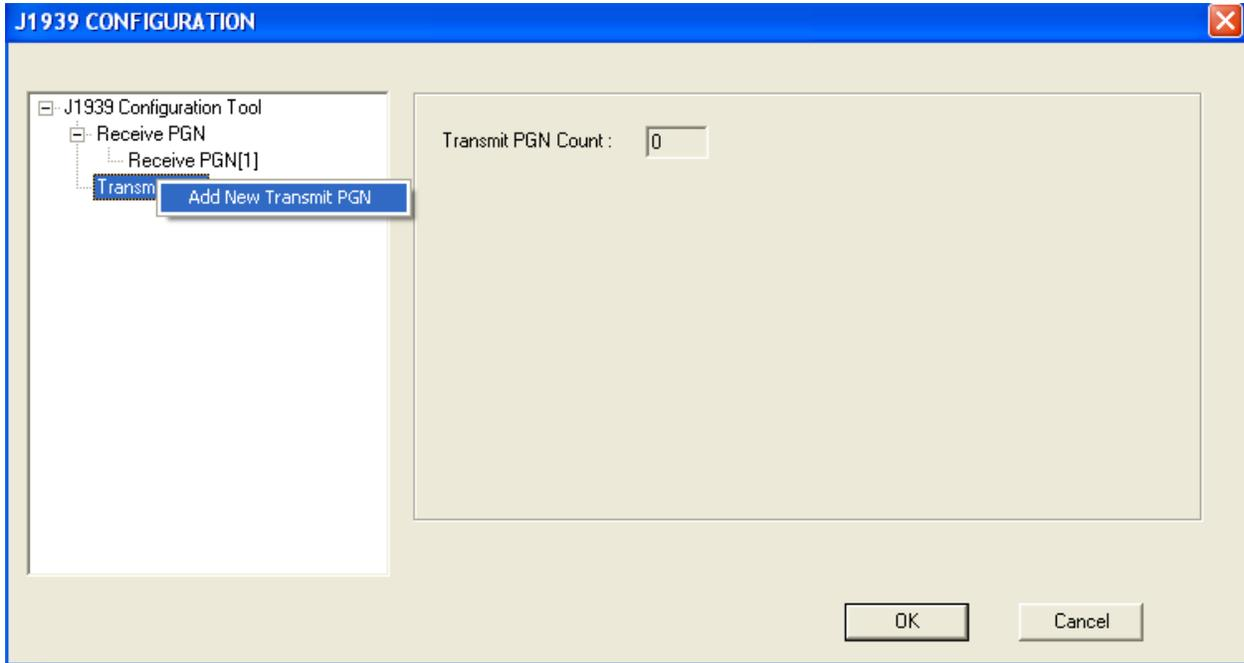

Figure 3.6 – Add New Transmit PGN
- Similarly to configure Transmit PGN, Right click on Transmit PGN and select “Add New Transmit PGN” as shown in Fig 3.6.